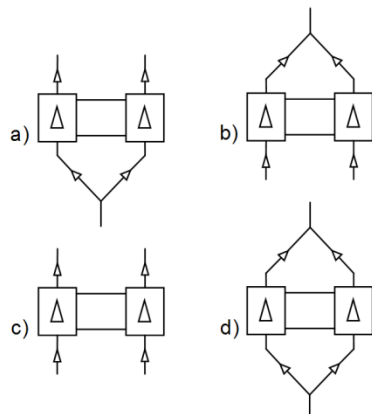

Fig. 12: Hose connection options for NFB-versions
- Mounting orientation → Generally speaking, the pump can be mounted in any orientation. The venting and accuracy of the pump is optimal if installed as shown in the illustration (Fig. 12).